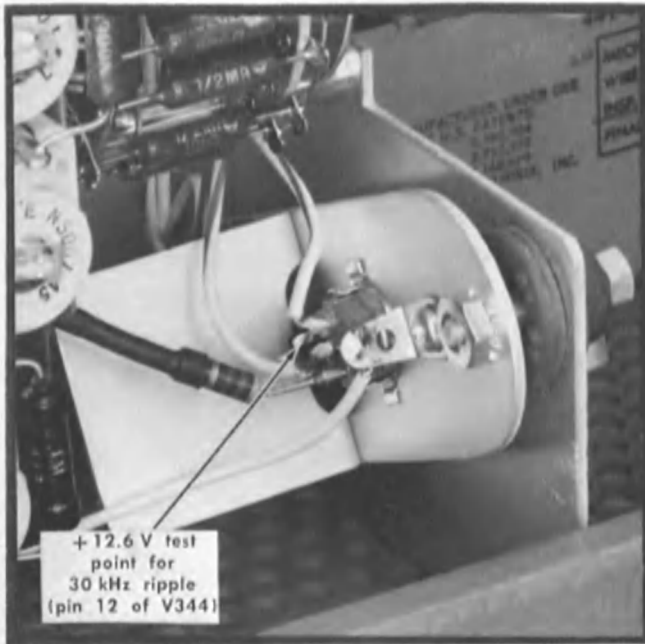

Fig. 6-8. Location of test point for 30 kHz ripple check on +12.6 V supply.
- n. Connect the test probe to pin 12 of V344. (See Fig. 6-8 for test point location).